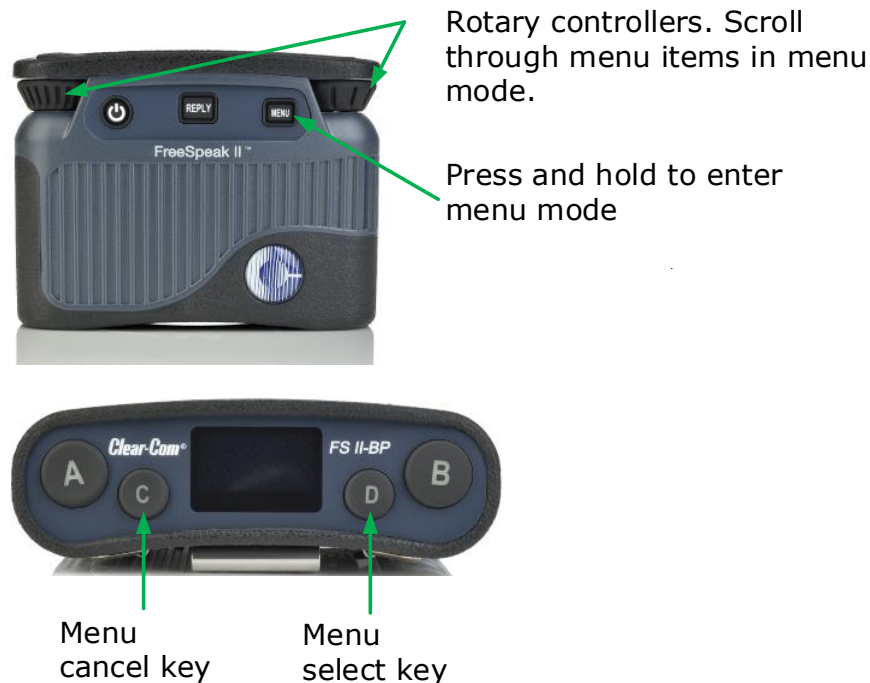

Figure 8-1 Beltpack menu controls
- The master volume level for the beltpack can be set by using the beltpack menu options. See **Figure 8-1 B eltpack menu** controls